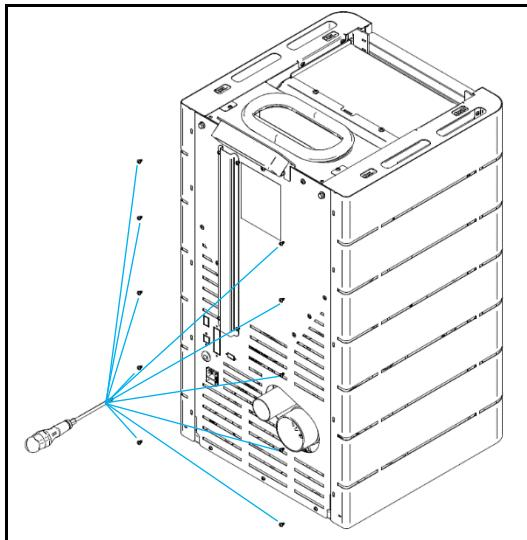

Figure 25 - Attaching the side casings
- e) Secure the side casings to the back of the unit using 10 screws from the kit, as shown in Figure 25.